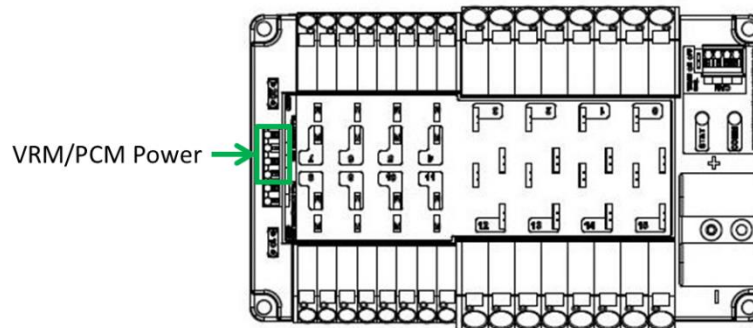

Figure 9-13 VRM and PCM power source
- R48.** The VRM supplying power to the Wireless Bridge per R47 must be connected to the designated supply terminals at the end of the PDP, and not the main WAGO connectors along the sides of the PDP as shown in Figure 9-13. With the exception of a single CTR Electronics Pneumatics Control Module (PCM, P/N: am-2858), no other electrical load shall be connected to these PDP terminals.